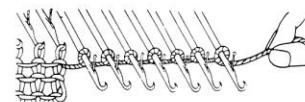

Fig.54
- Wrap the yarn from the feeder around the stem of each of these needles as shown in Fig. 54, making sure that all the loops are behind the open latches.